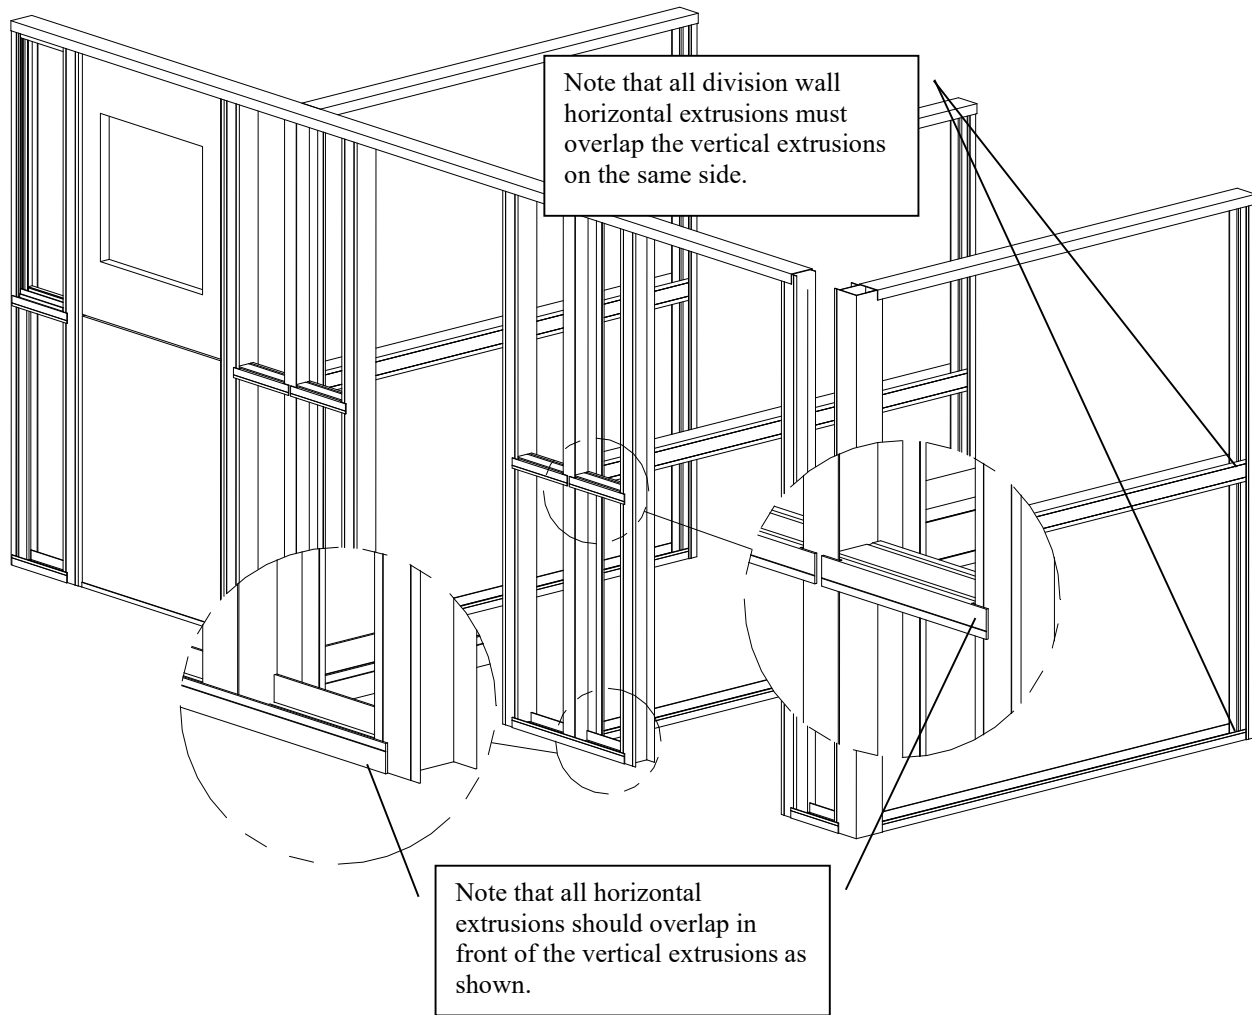
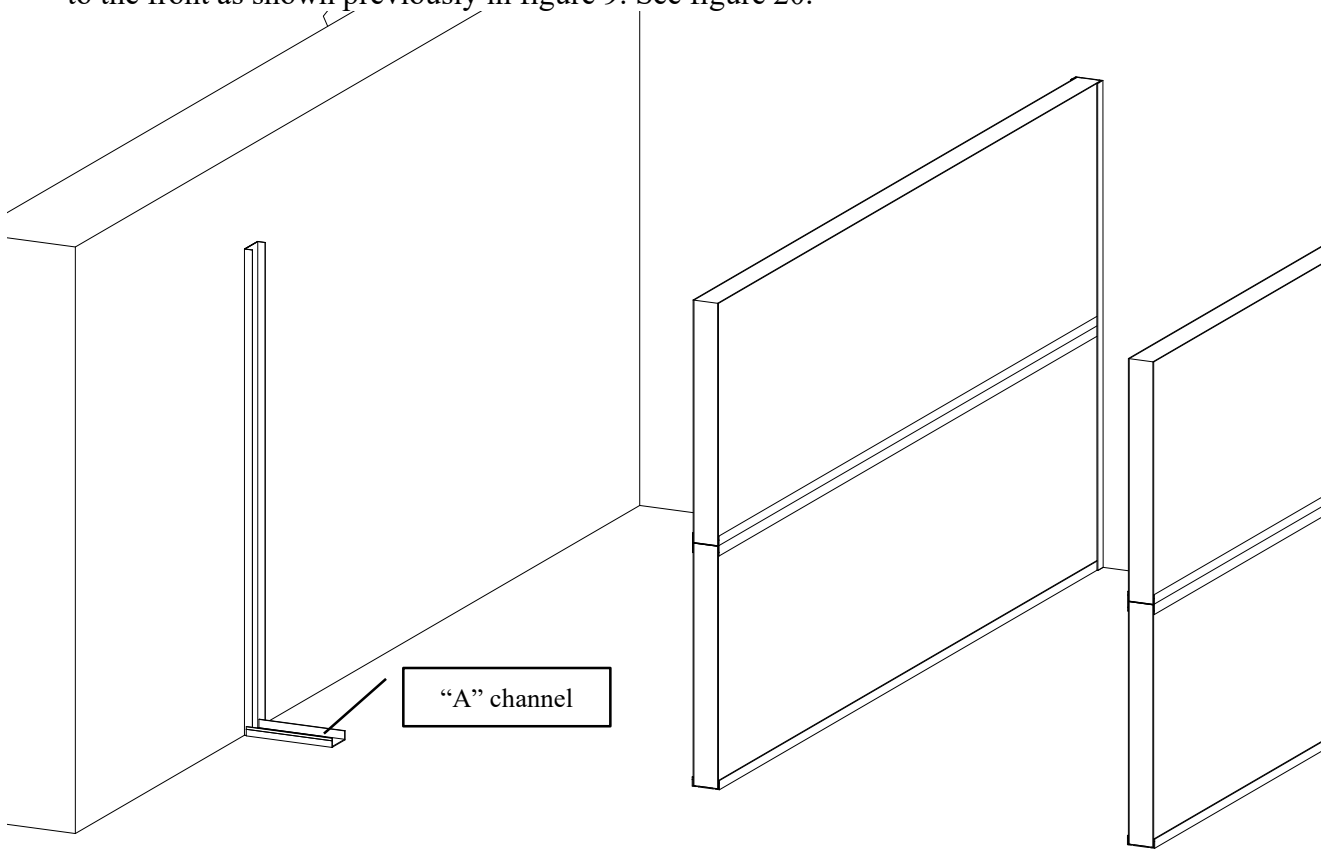

Figure 9
Figure 20
2. The extrusions must overlap to fit together properly, care must be taken to keep overlaps the same at the bottom level as they are at the middle level. It will make a difference as to how your runs go together if you do not align the extrusions properly and in some cases they may not go together at all. See figure 9.
4. Beginning at an end of the system place the first "A" channel in place. This channel will overlap to the front as shown previously in figure 9. See figure 20.